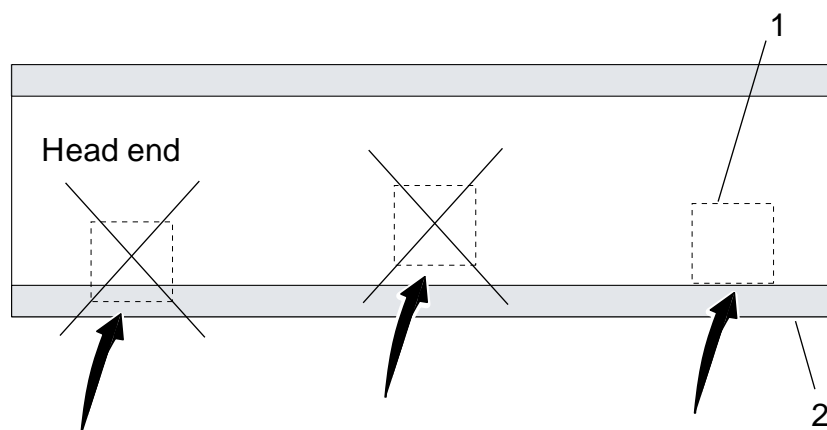

Fig. 5-42
4. Move the OTC forward/backward along the table frame. The border of the light field must not move from the border of the table frame, see Fig. 5-42 .